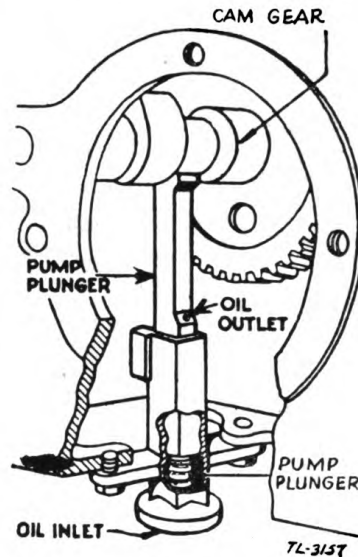

FIGURE 28.—Oil pump.
34. Oil pump, Briggs and Stratton engine.—The oil pump is assembled to the crankcase, being supported by two bolts and lockwashers. An eccentric on the cam gear operates it. An inoperative pump will cause insufficient lubrication and the cylinder and piston may be scored. The oil pump may be checked by removing the base and the two bolts that hold the pump in place. Then place the pump in a pan with oil about $\frac{1}{2}$ inch deep and move the plunger up and down. If the pump is in good operating condition, a stream of oil will be forced out of the hole in the plunger. If the pump does not function it may be clogged, in which case, remove the plunger and plunger spring and submerge the parts in kerosene or gasoline 3 or 4 hours to loosen the accumulated sludge or gum. If the pump fails to function after reassembly, it should be replaced. When assembling the pump be sure the spring and plunger are in place as shown in figure 28.
the base from the engine. Remove the oil return valve and clean or flush with gasoline. (The oil return valve is screwed into the magneto backplate below the main bearings.) Blow out any dirt lodged under the small disk. Replace the oil return valve with new parts if necessary. (See fig. 28.)